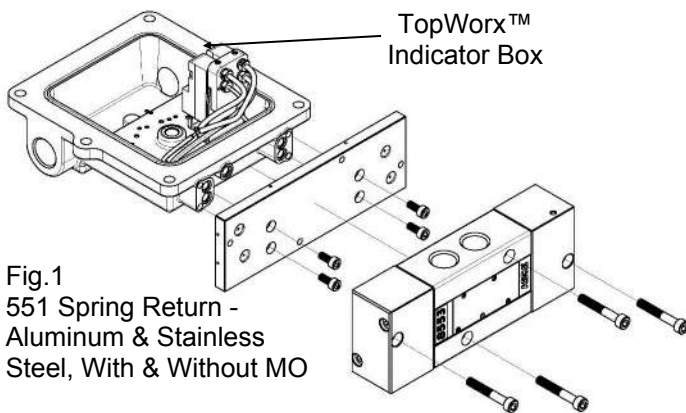

Fig.1
All valves are configured for internal pilot pressure supply. Pilot pressure supply is from Pilot Valve mounted inside the TopWorx Indicator Box as shown in Figure 1 (a).
- When assembling this product to a pilot to **ATEX 2014/34/EU**, take the least favorable category, maximum working pressure and temperature into account. Compliance with the Essential Health and Safety Requirements has been assured by compliance with the European Standards EN 13463-1. The mounting position for the pilots as shown in figure 1 (a).
- ASSEMBLY OF 551 VERSIONS:** 551 series valves are directly mounted on Indicator Box. Spring Return valves are mounted with the help of 3 screws and Dual Pilot valves are mounted with the help of 4 screws as shown in figure 1 (a) & 1 (b). Mounting screws are not provided with valve. TopWorx Indicator Box shown in the pictures are only for illustration purpose.